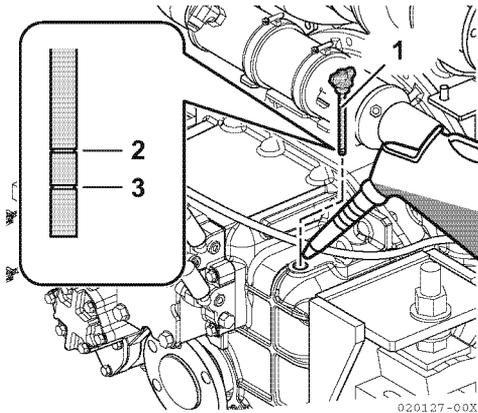

Figure 7
2. Remove the filler cap (**Figure 7, (1)**) at the top of the housing.
3. Remove dipstick (**Figure 7, (1)**) and wipe with clean cloth.
5. Remove dipstick. The oil level should be between upper (**Figure 7, (2)**) and lower (**Figure 7, (3)**) lines on the dipstick.
3. Fill with oil to the upper limit on the dipstick (**Figure 7, (2)**). See *Marine Gear Oil Specifications* on page 43.